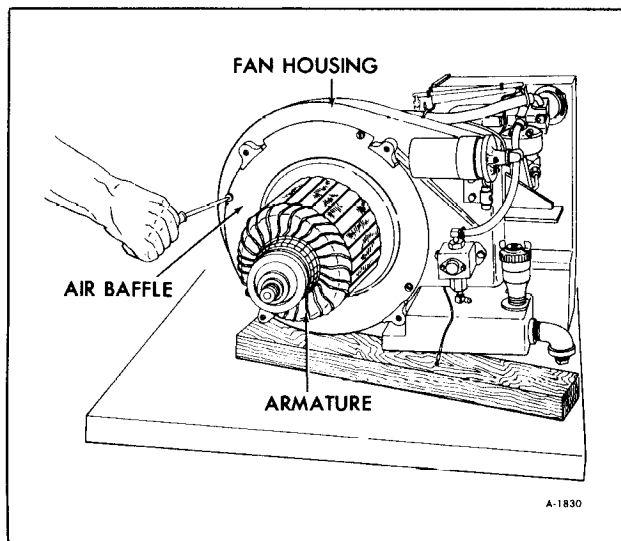
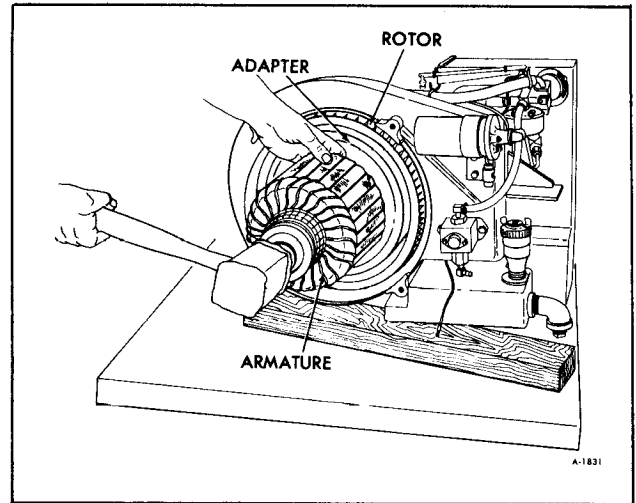

Figure 4–Removing Air Baffle From Fan Housing
Figure 5–Separating Armature From Crankshaft
4. Remove the air baffle from the fan housing, (figure 4) turn the thru bolt out about 2-3 turns then bump the end of the thru bolt (with soft head hammer) until the armature separates from the taper on the engine crankshaft (figure 5). Do not separate the rotor and adapter from the armature unless it is necessary to replace either of these items.